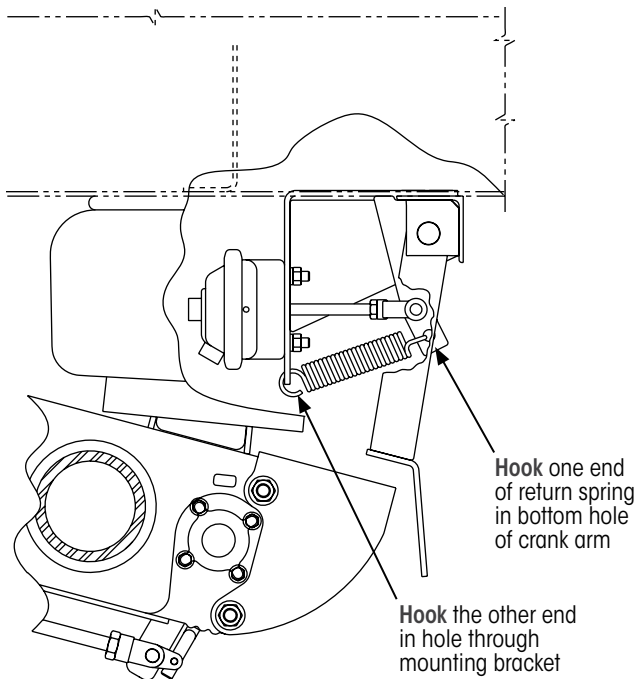

Figure 47: Spring installation details
1. Hook one end of the spring to the mounting bracket (Figure 47).